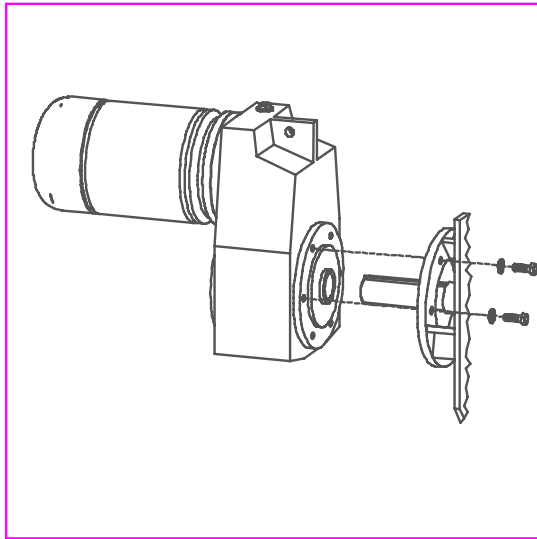

Figure 2.4a - Mounting the Drive Assembly
6. Bolt the gearbox to the bell housing flange with the bolts, nuts and washers provided (see *Figure 2.4a*).